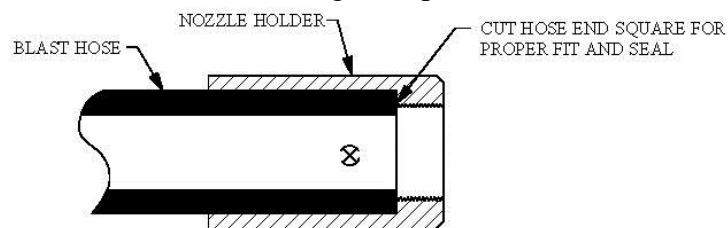

Figure 8.3 – Hose End Fit up
- 8.7. **Blast and Air Hose Gaskets:** All air hose, blast hose, and threaded couplings have gaskets that seal the connection. To reduce loss of air pressure and/or premature abrasive wear replace these gaskets when leaks are found. Inspect the couplings daily for leaks and wear. Replace gaskets when visible wear or leaks are found. When installing or replacing hose couplings cut the hose end square for secure fit (see Figure 8.3). To insure proper coupling connection always use fittings that are the same brand. See the drawings and part lists in Section 9.0.